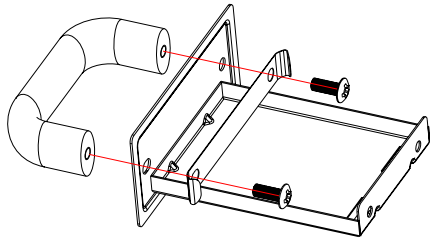

Fig. 7A
Attach the Wood Chip Box Handle and Wood Chip Box Lock to the Front Panel Assembly using (2) M6x12 bolts as shown in Fig. 7A.